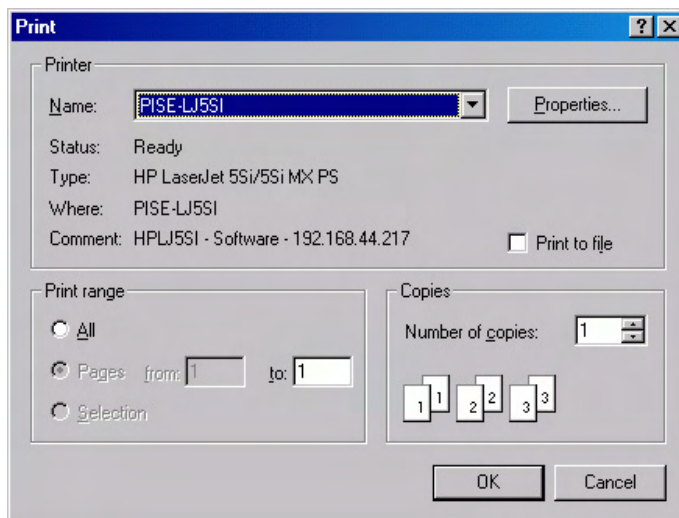

Figure 167. Print dialog box
1. From the File menu, open the Print dialog box (Figure 167).